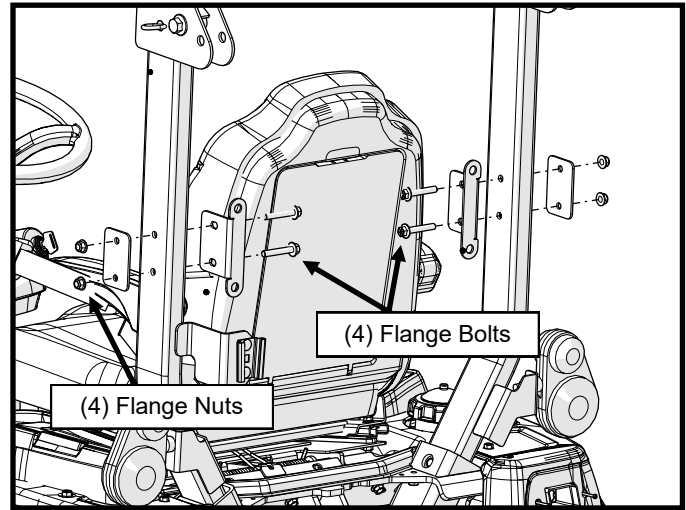

Figure 21: Install Rear Mounts
(4) 5/16ID x 1.25" OD Steel Fender Washers
23. With assistance, place the rear panel into position as shown in Figure 21 using extra caution to ensure that the plastic on the left side fits properly between the ROPS and the storage box. Begin installation of the prepared hardware by hand to ensure that the threaded inserts are not cross threaded.